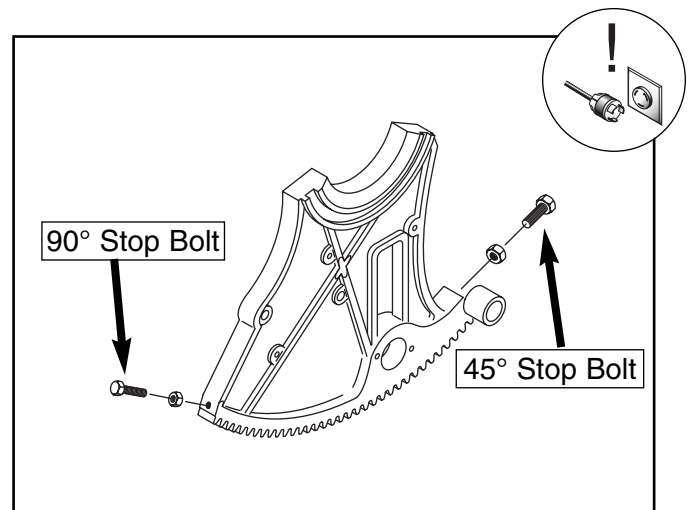

Figure 20. 90° and 45° stop bolts.
4. Adjust the handwheel until the square is flush with the blade. Loosen the tilt indicator arrow, set to zero, and retighten. Loosen and adjust the stop bolt on the left side of the front trunnion (**Figure 20**) to allow a 90° stop point.
5. Repeat **Steps 2-4** for setting the blade to 45° and adjust the 45° stop bolt on the right side of the front trunnion as shown in **Figure 20**. Use the 45° side of a combo square or a bevel gauge set at 45°.